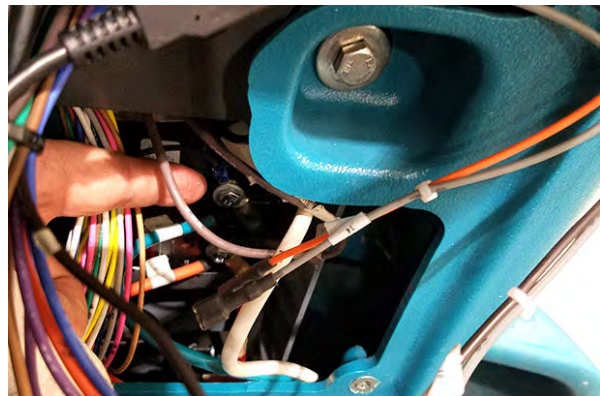

FIG. 34
- 19.Remove the hex nut from propel controller B- terminal. (Fig. 34)
- 20.Connect the blue spotlight harness (3) RT1 lead to the propel controller B- terminal and reinstall the previously removed hex nut onto the propel controller B- terminal. (Fig. 34)